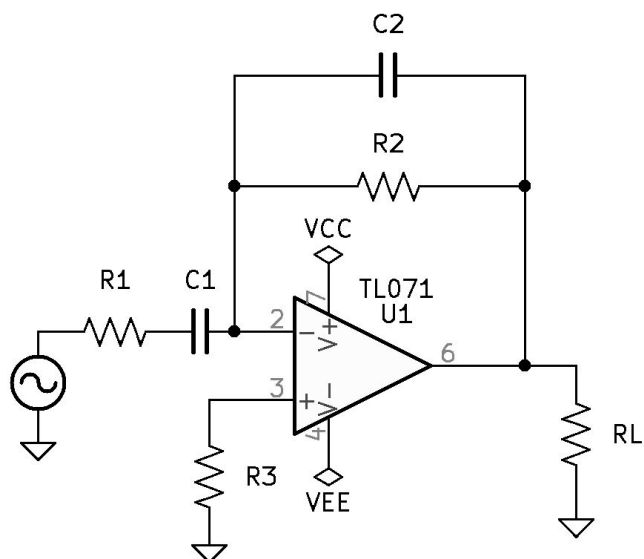

Figure 8.5: Band-Pass First-Order Active Filtering Circuit.
1. See Figure 8.5 *Band-Pass First-Order Active Filtering Circuit* on page 84.